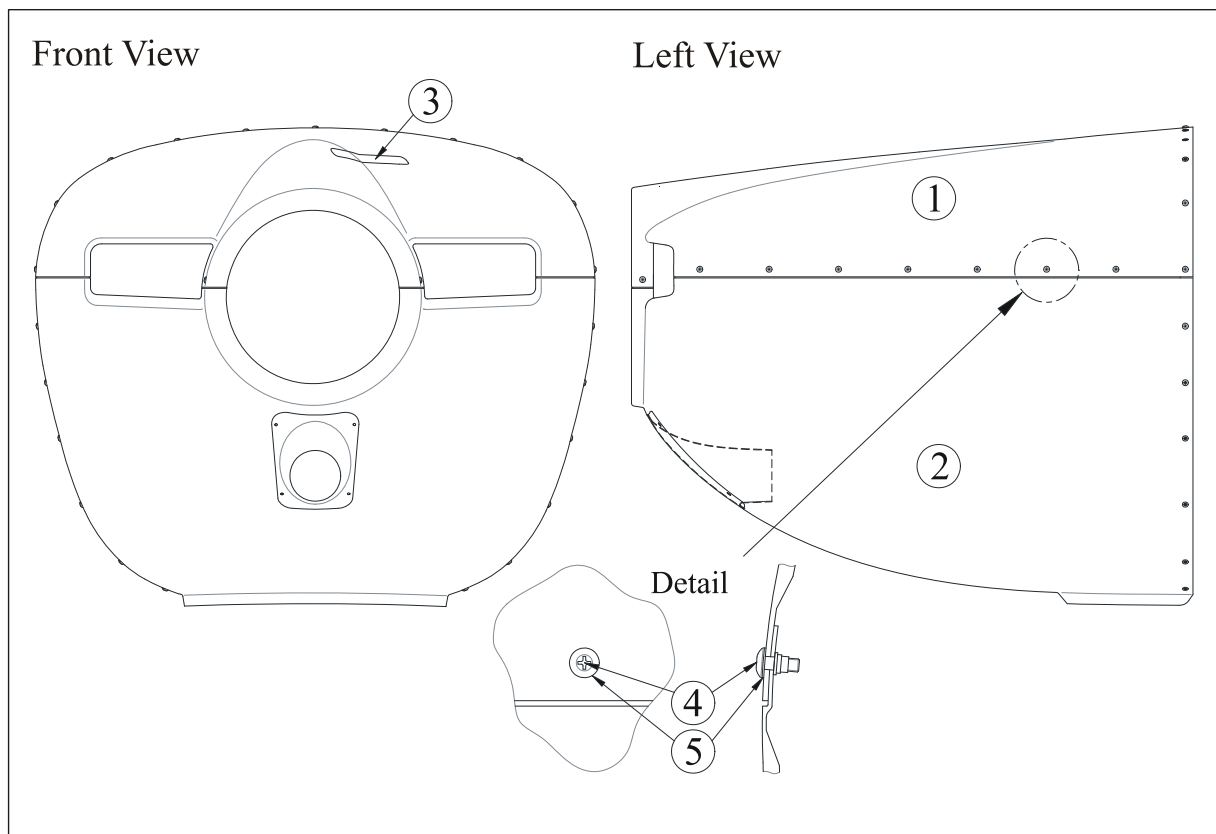

Figure 1
The engine cowling is divided into two parts: The top half (1, Figure 1) and bottom half (2) made of GFRP or CFRP honeycomb sandwich.
- 2 Remove the related truss head screws (4)&(5) of top cowling half (see figure 1).
- 4 Remove the remaining truss head screws (4)&(5) of the bottom cowling half (see figure 1).